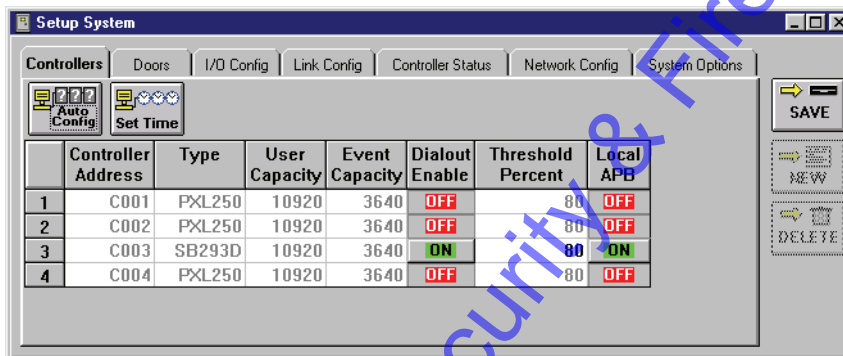

Figure 3-16: Local Anti Passback is ON
4. The resulting window should look similar to Figure 3-16.